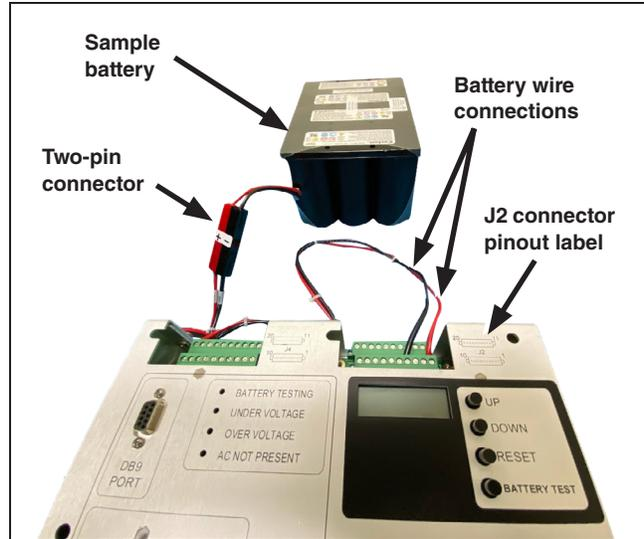
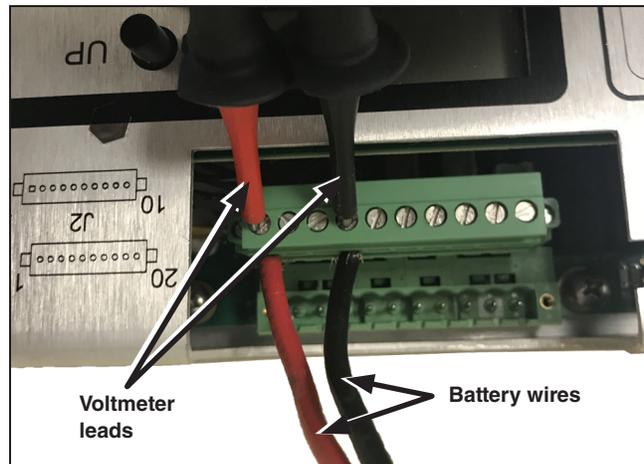

Figure 15. Battery wires connected to the J2 connector. The J2 connector pinout label is used as a reference for battery wire connection locations.
Figure 16. Locations to test the battery connections using a voltmeter.
- STEP 1.** Disconnect the two-pin connector separating the battery from the charger. See Figure 15 on page 16.
- STEP 3.** Connect the two-pin connector. See Figure 15. Before turning on the charger, use a voltmeter to confirm the voltage at the J2 connector. Voltage across pin 1 (battery positive) and pin 4 (battery negative) should be between 20 Vdc and 26 Vdc (depending on the battery state of charge). See Figure 16.
- STEP 4.** Making sure the two-pin battery connector is disconnected, use a small flathead screwdriver to secure the 24-Vdc battery wires to the charger by connecting the battery positive wire to pin 1 and battery negative wire to pin 4 of the J2 connector. See the J2 connector pinout label on the charger faceplate for exact pin locations to terminate the wires. Now, connect the two-pin connector so the battery is connected to the charger. See Figure 15 on page 16. For a description of wiring connector installation, see Appendix B on page 26.
- STEP 5.** Before turning on the charger, use a voltmeter to confirm the voltage at the J2 connector. Voltage at pin 1 (battery positive) and pin 4 (battery negative) should be between 20 Vdc and 26 Vdc (depending on the battery state of charge). See Figure 16 on page 16.
- STEP 4.** Making sure the two-pin battery connector is disconnected, use a small flathead screwdriver to connect the 24-Vdc battery to the charger by connecting the battery positive lead to pin 1 and the battery negative lead to pin 4 on the J2 connector. Now, connect the two-pin battery connector so the battery is connected to the charger. See Figure 15 on page 16.
- STEP 5.** Before turning on the charger, use a voltmeter to confirm the voltage at the J2 connector. Voltage at pin 1 (battery positive) and pin 4 (battery negative) should be between 20 Vdc and 26 Vdc (depending on the battery state of charge). See Figure 16 on page 16. For a description of wiring connector installation, see Appendix B on page 26.